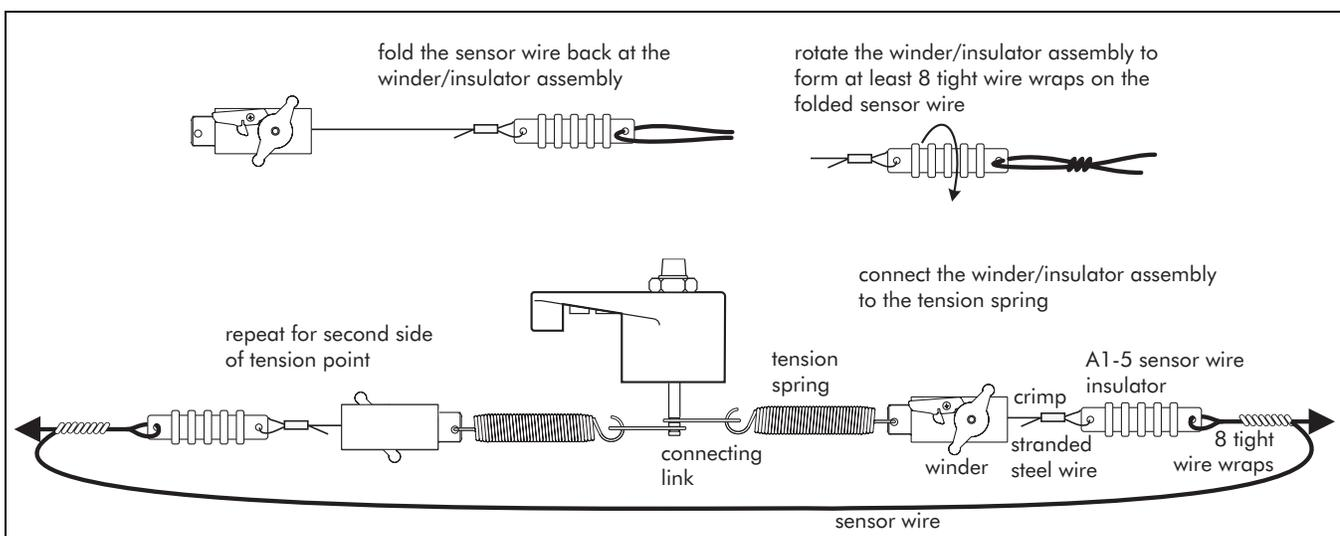

Figure 7-7 Connecting the sensor wire to the winder/insulator assembly
3. Approximately 75 cm (30 in.) away from the steel insert on the tension insulator, take the sensor wire insulator in one hand and fold the sensor wire back at that point. Hold the two sections of sensor wire and rotate the winder/insulator assembly to form at least 8 close, tight loops. The wire wraps secure the sensor wire to the A1-5 insulator (see Figure 7-7).